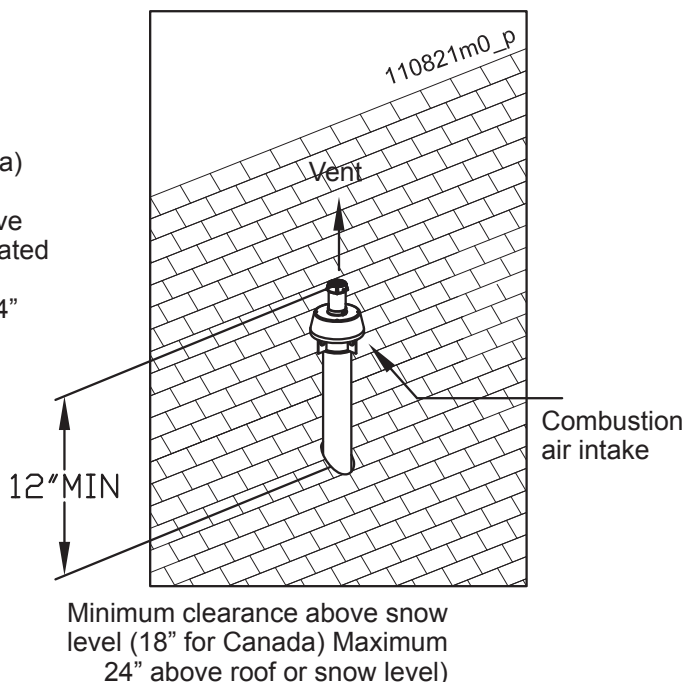

Figure 11-26 Concentric vertical terminations
1. Determine the best location for the termination kit (see Figure 11-26).
4. Cut one (1) hole into the structure to install the termination kit.